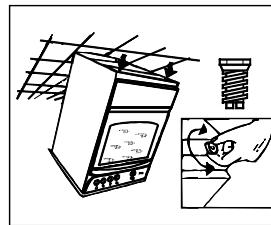

Fig. 6
- Get the cooktop out of plumb position (fig. 6) to get access to the feet from beneath. The regulation can be done manually with the 8 mm allen key. Put the allen key into the feet's hexagonal opening and turn in the appropriate direction.